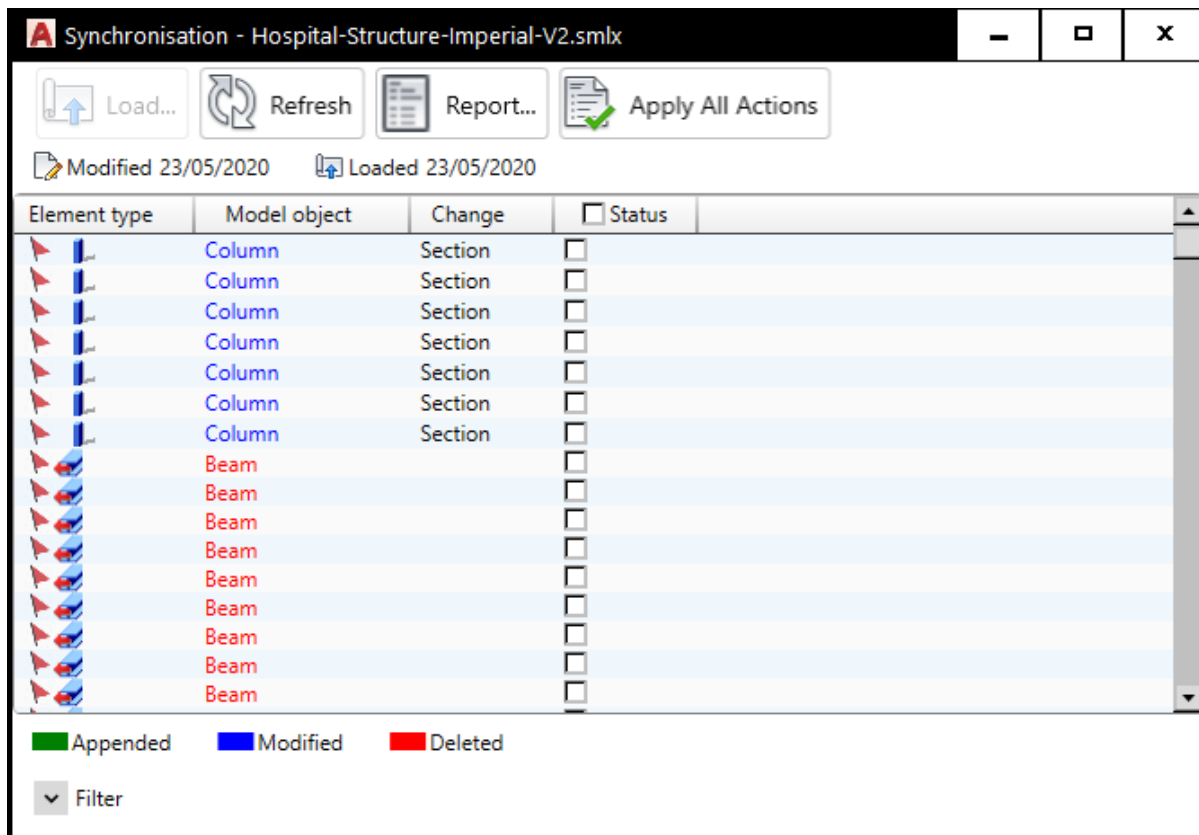

FIGURE 26: THE SYNCHRONIZATION DIALOG BOX SHOWING ALL THE CHANGES
2. In the **Synchronization** dialog box, click the **Load** button and load the modified SMLX file that was exported from Autodesk Revit after modifying the model; the dialog box shows changes between the Advance Steel model and the Revit file, as shown in Figure 26